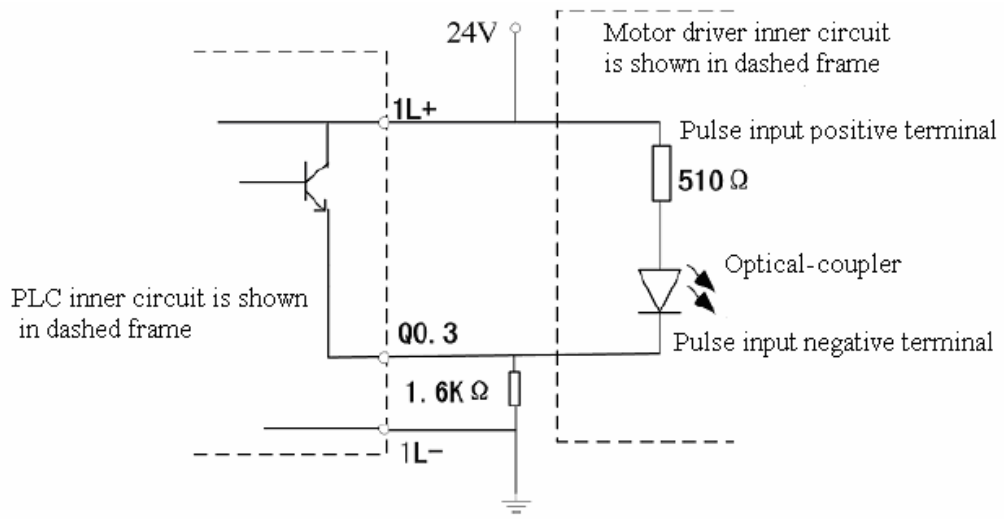
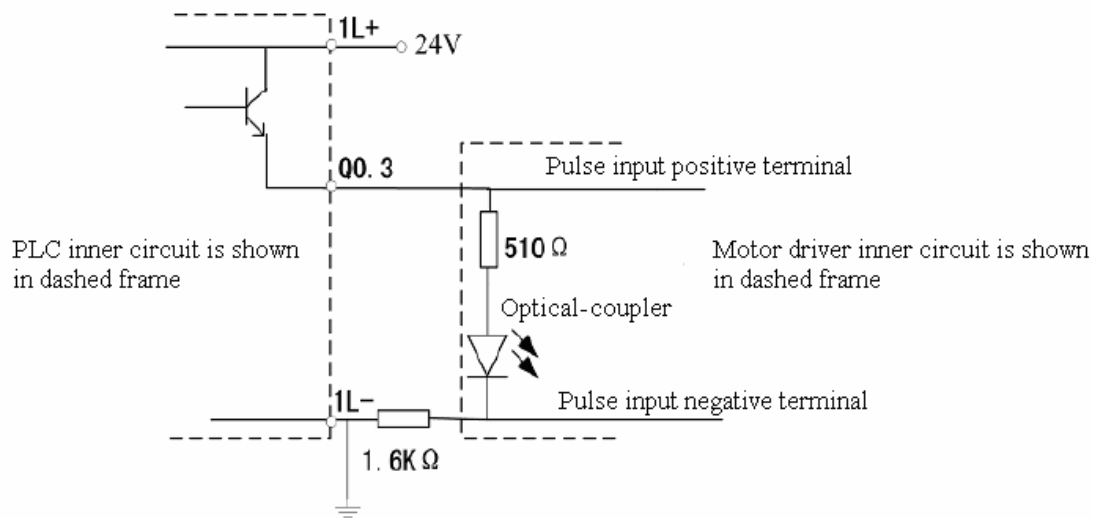

Figure 2.4.2 The Connection between LM3106 High-speed Output and Motor Example1 (same connection method to Q1.1)
Figure 2.4.3 The Connection between LM3106 High-speed Output and Motor Example2 (same connection method to Q1.1)
- ◇ Figure 2.4.2 and Figure 2.4.3 show two examples of the connection between LM3106 high-speed output and motor. 1.6KΩ resistance is used to driver rated current value between 10 and 20mA. The connection method shown in Figure 2.4.2 is recommend as it has better anti-jamming ability. The connection method shown in Figure 2.4.3 is the same with normal output wiring, and adopted without high precision requirement.